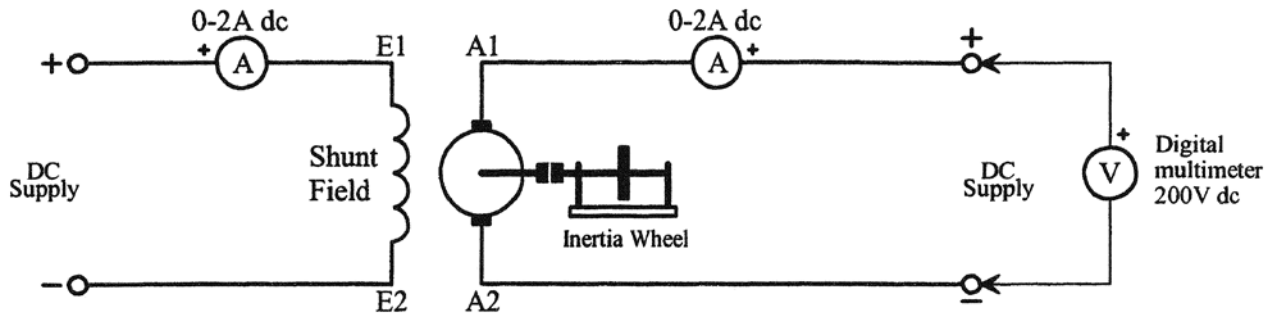

figure 1
1. Connect the motor as shown in figure 1.